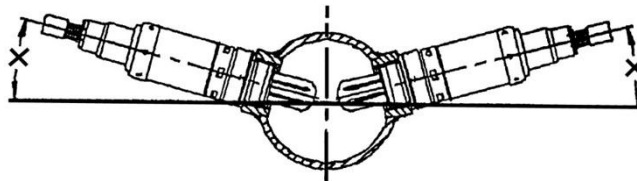

Figure 3
**NOTE:** The oxygen sensor should be mounted in such a way that the condensation in the exhaust tubing will not enter the sensor. Mount the O2 sensor in the upper half of the exhaust tubing, with the angle "x", shown above, being greater than 10°. **Figure 3** indicates that the sensor can be mounted on either side of the exhaust tubing.